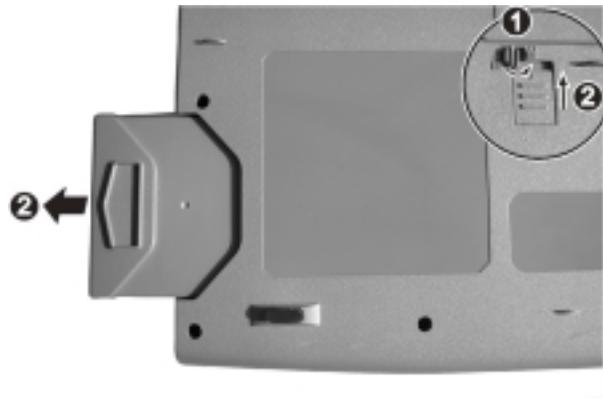

Figure 2-3
2. Turn the locking button to the "unlock" (🔓) position (❶), then slide and hold the latch in the unlock position and pull the battery pack out of the compartment (❷).(figure 2-3)